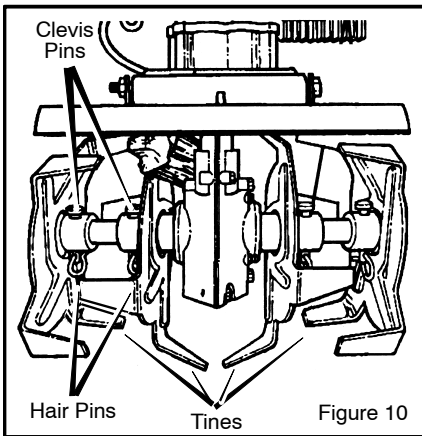

Figure 10
2. While wearing gloves, remove the **hairpins** and **clevis pins** that secure the tine assemblies to the shaft (see Figure 10). Remove the tines from the shaft.